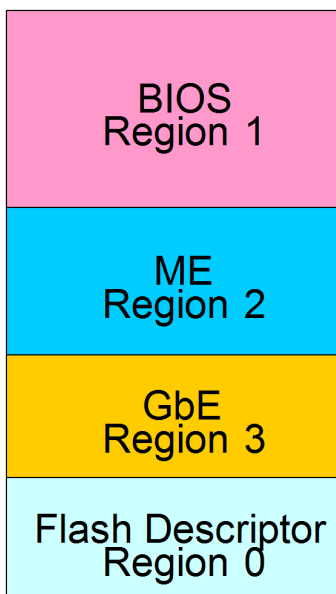

Figure 10-1. LAN NVM Regions
The LAN NVM shares space on an SPI Flash device (or devices) along with the BIOS, Manageability Firmware, and a Flash Descriptor Region. It is programmed through the Intel® C220 Series Chipset. This combined image is shown in Figure 10-1. The Flash Descriptor Region is used to define vendor specific information and the location, allocated space, and read and write permissions for each region. The Manageability (ME) Region contains the code and configuration data for ME functions such as Intel® Active Management Technology. The system BIOS is contained in the BIOS Region. The ME Region and BIOS Region are beyond the scope of this document and a more detailed explanation of these areas can be found in the *Intel® C220 Series Chipset Family External Design Specification (Intel® C220 Series Chipset EDS)*. This document describes the LAN image contained in the Gigabit Ethernet (GbE) region.